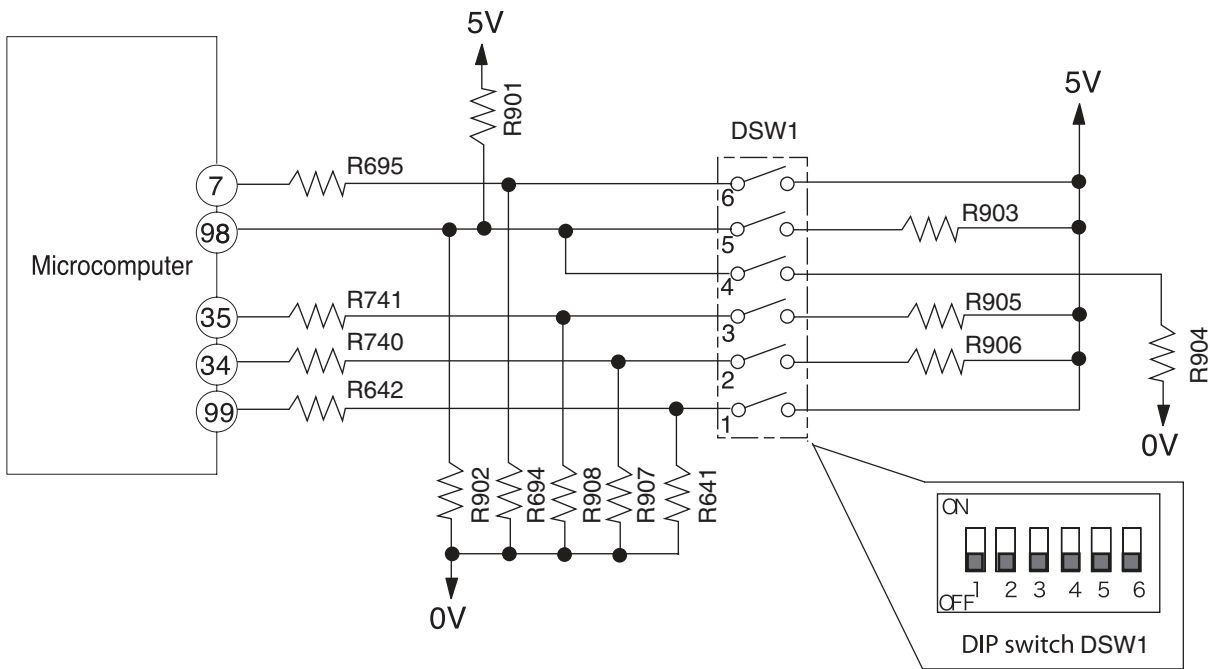

Fig.10-1 Dip switch Circuit
- Fig. 10-1 shows the dip switch circuit; the table shown in Fig. 10-2 are function and setting position from ① – ⑥ of the switch no.